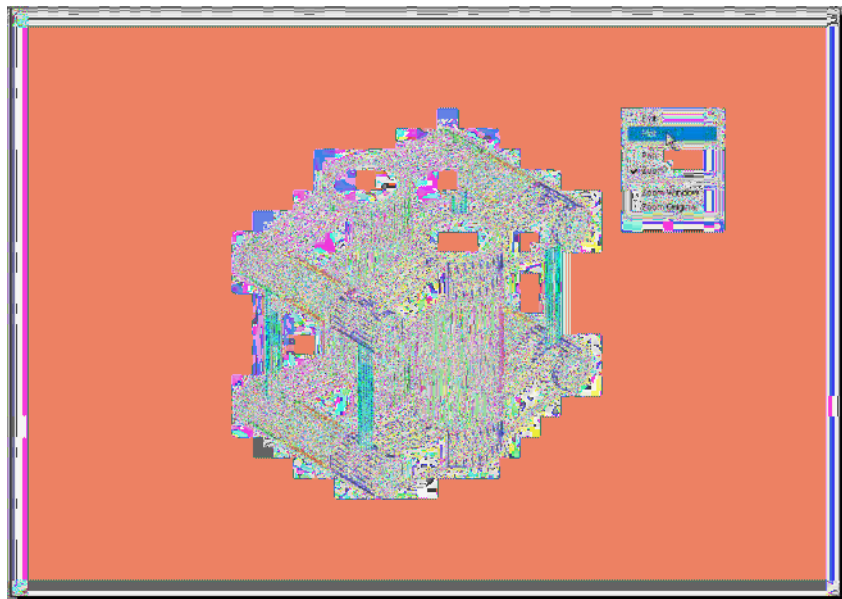

Fig. 19.10 Third example – Printing/plotting
### Third example – **Printing/plotting** (Fig. 19.10)
4. If satisfied with the preview (Fig. 19.10) right-click and click on **Plot** in the menu which appears. The drawing plots.